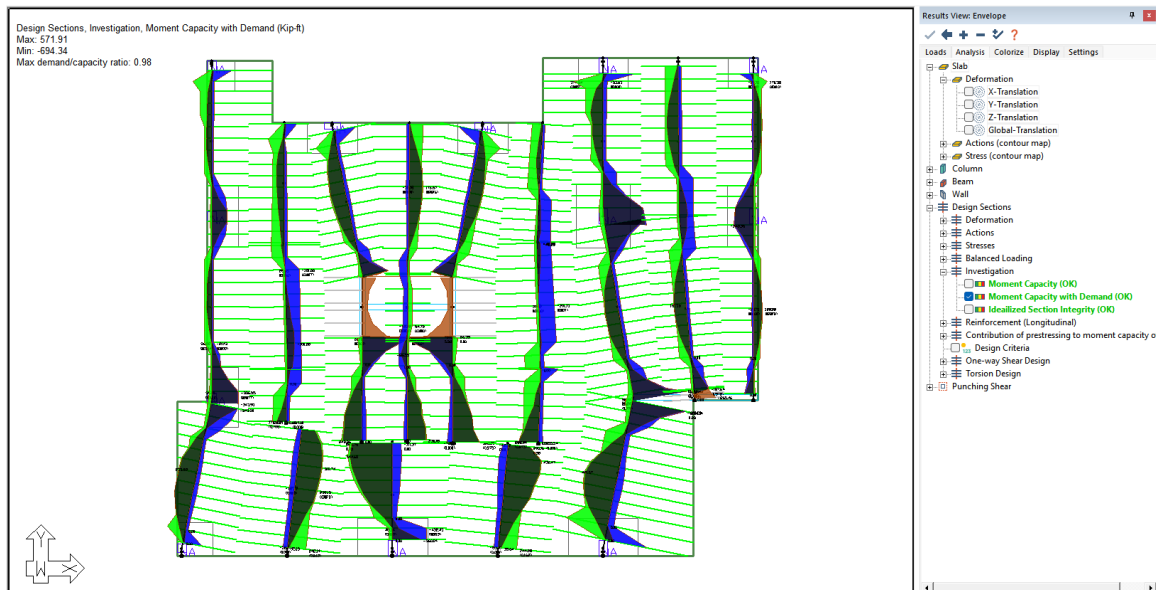

FIGURE 10-24
- In the *Analysis* tab of the *Results View* panel check the box next to **Design Sections** → **Investigation** → **Moment Capacity with Demand** by clicking on it. You will now see moment capacity with demand curve along the support line as shown in **FIGURE 10-24**.